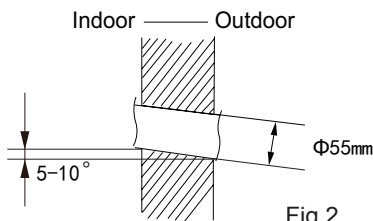

Fig.2
(2) Open a piping hole with the diameter of Φ55mm on the selected outlet pipe position. In order to drain smoothly, slant the piping hole on the wall slightly downward to the outdoor side with the gradient of 5-10°. (As show in Fig.2)